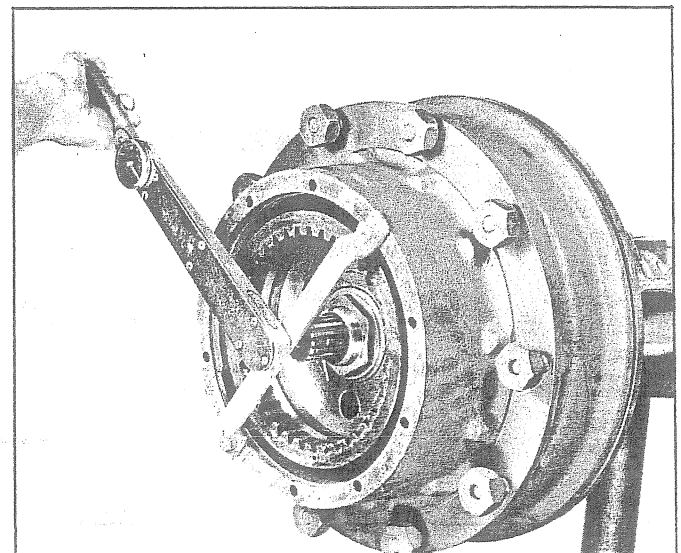

Fig. 102 - Checking Preload of Hub Bearings
21. Attach special tool to hub and check rolling torque (rolling resistance) with a torque wrench as shown in Fig. 102. (The rolling torque is the force necessary to keep the hub in motion, not the torque wrench reading at start or end of check.) The rolling torque on new bearings should be between 10-15 ft.-lbs. and between 5-10 ft.-lbs. on used bearings. Tighten, or loosen, inner spindle nut as necessary.